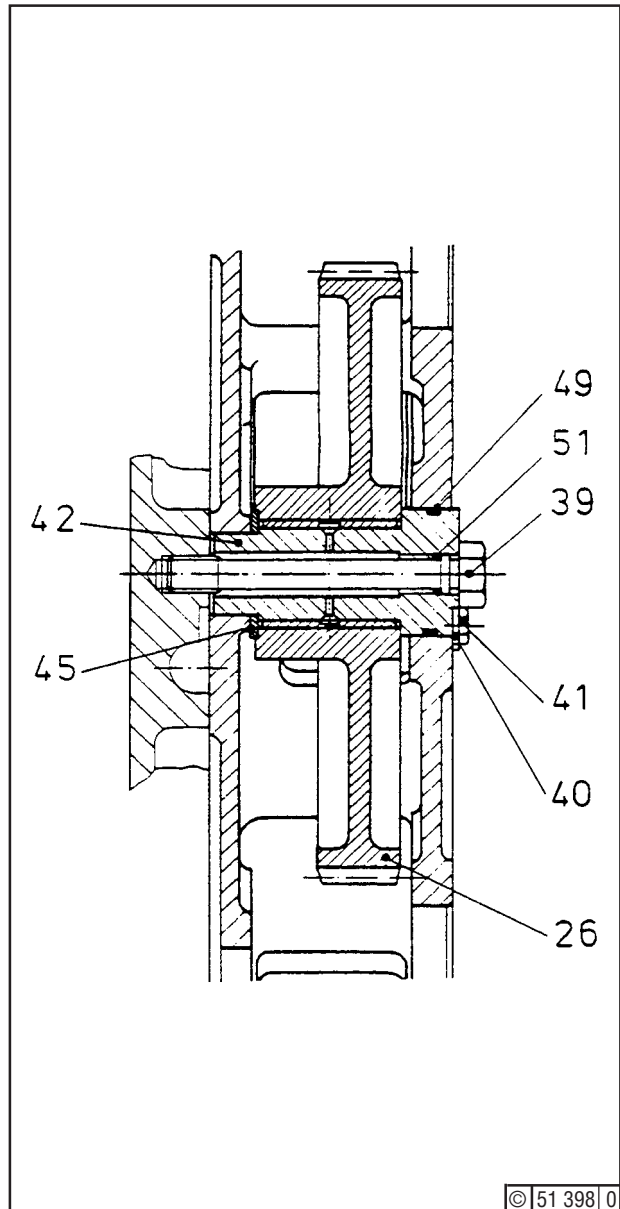

Fig. 2
Refitting Idler Gear (26) - Fig. 2